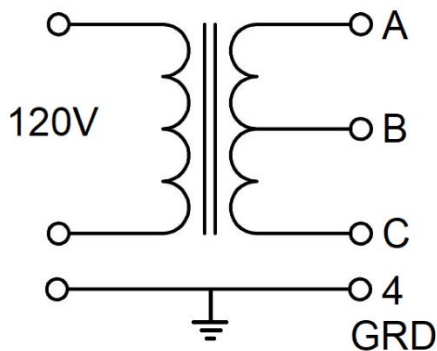

Figure 4: An educated guess at the internal organization of the KS21239L4 transformer.
Now that we have that out of the way, let's determine the configuration of windings in the transformer. My guess is that the transformer output is center tapped; meaning that the secondary winding is divided into two evenly split sections as shown in Figure 4.
- 4) What screw-terminals are associated with A, B and C in Figure 4? Hint, there are two possible answers, just provide one.
- 6) What is the RMS voltage between terminals A and B in Figure 4? Convert this RMS voltage to peak-to-peak.
- 7) What is the RMS voltage between terminals A and C in Figure 4? Convert this RMS voltage to peak-to-peak.